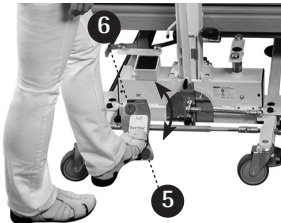

fig. 30
**High stability by ground fixation:** The ground fixation can be locked by pushing the red part of the foot pedal **5** (fig. 30). This ensures high stability, even during active training. To release the ground fixation push the green part of the foot pedal **6** (fig. 30).